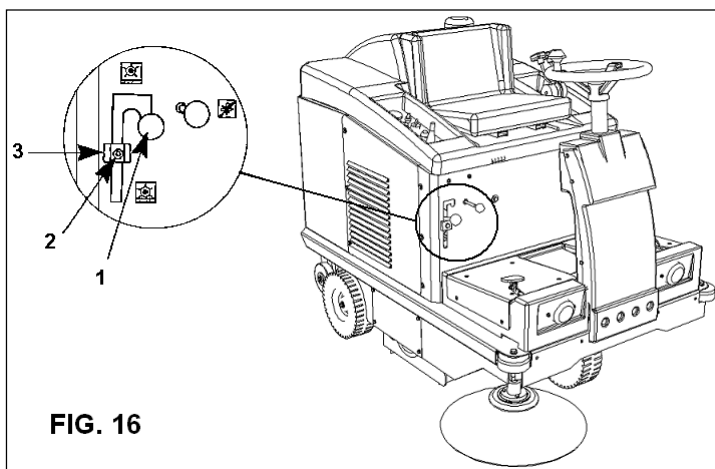

FIG. 16
- USTAWIĆ DŹWIGNIĘ(PUNKT 1- RYS.16)W POZYCJI SZCZOTKA CENTR. -W GÓRZE
- ZWOLNIĆ SRUBĘ(PUNKT 2- RYS. 16).
- OBNIŻYĆ REGULATOR(PUNKT 3- RYS.16) O $\frac{3}{4}$ mm LUB O WYMAGANĄ ODLEGŁOŚĆ.
- USTAWIĆ DŹWIGNIĘ NAD REGULATOREM (PUNKT 3 –RYS. 16).